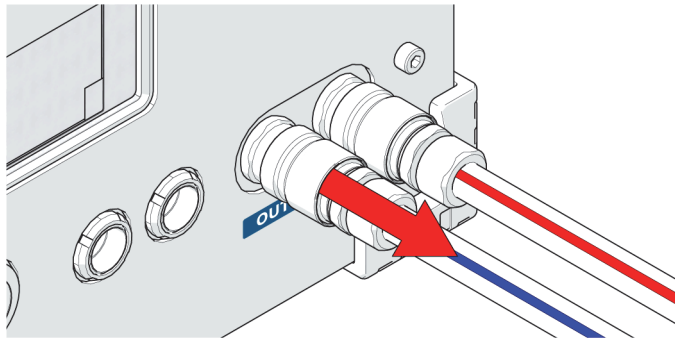

Figure 2-61 Disconnect hose
1. To disconnect a hose, grasp the sleeve of the hose fitting and pull it away from the cooler (see Figure 2-61 on page 87)